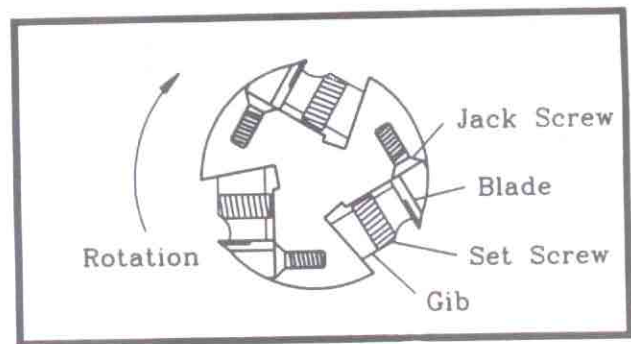

Fig. 5
11. Replace lock bars on knife number one as in Fig. 5 paying attention to which direction they face.
12. Carefully install new or sharpened knife into cutterhead between lock bar and cutterhead. Note direction of knife as pictured in Fig. 5.